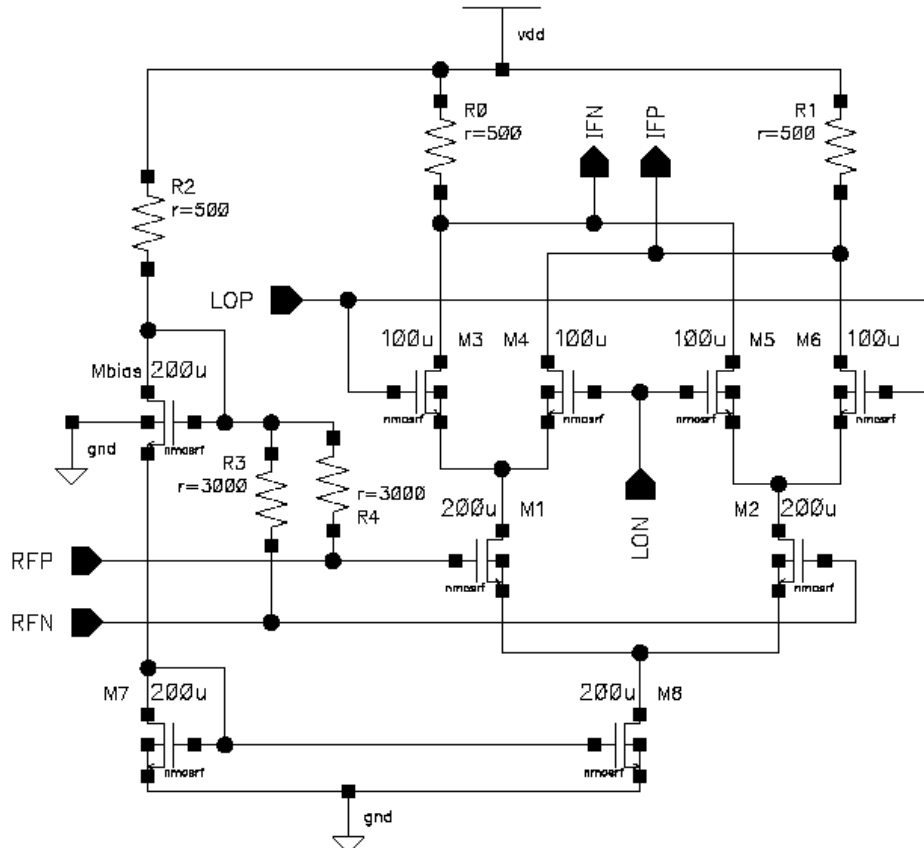

Fig 1: Gilbert Mixer Schematic
- Create and draw the Schematics **mixer** as shown in Fig. 1.